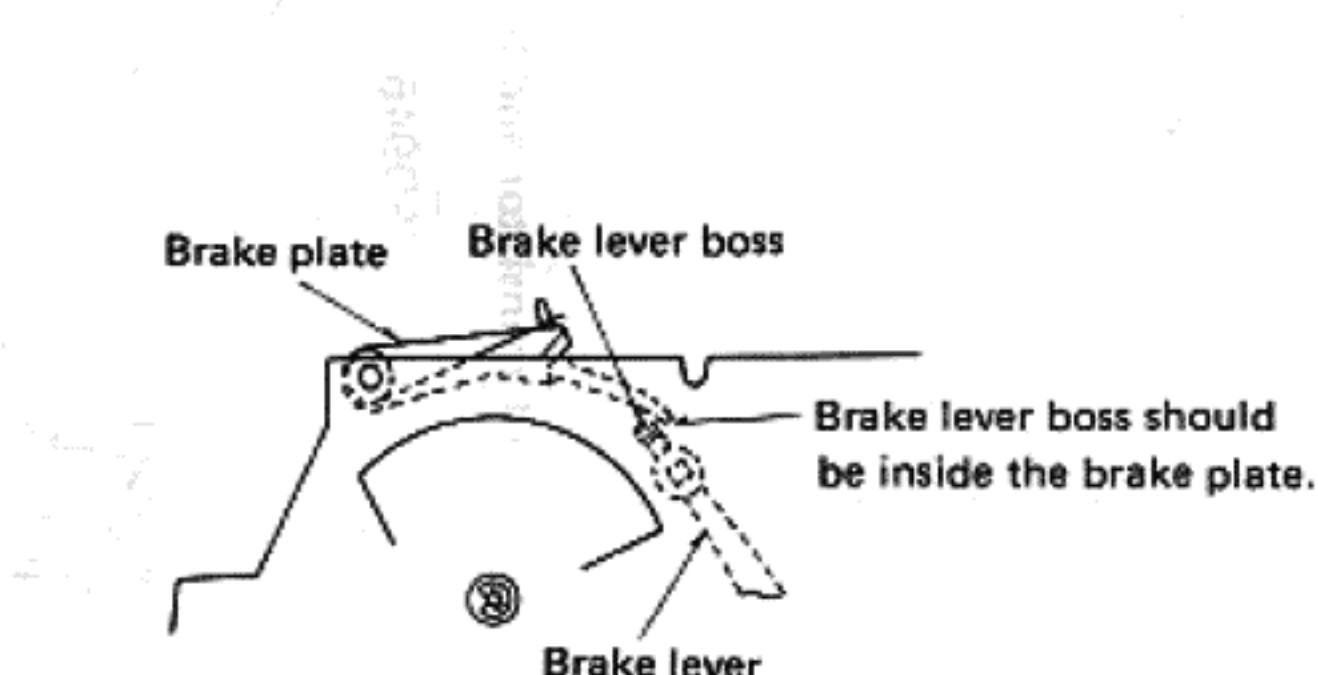

Fig. 5
- (1) Turn the shaft to rotate the main gear until no remaining of the gear.
- (2) The brake lever boss of the lift base should be inside the brake plate (cueing up). (Fig. 5)